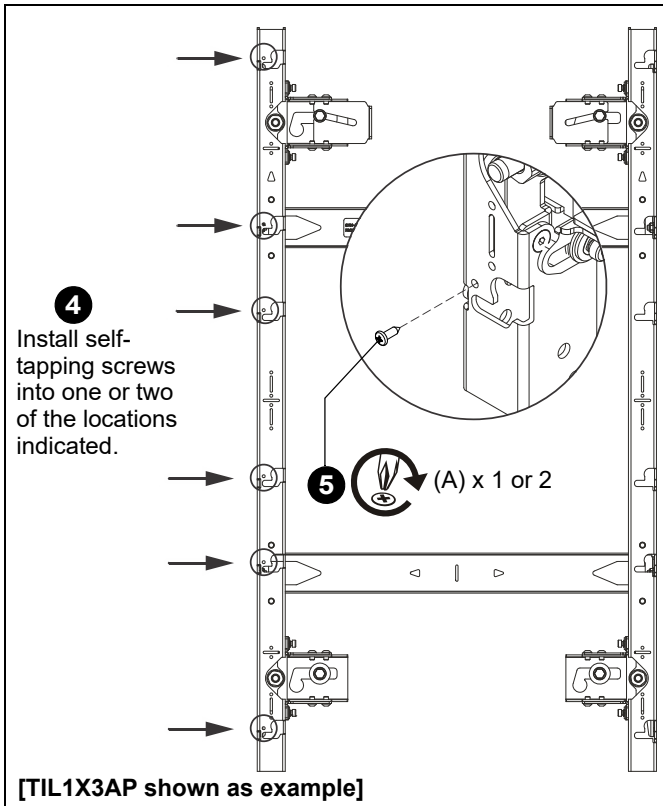

Figure 18
4. Install one or two #10 x 1/2" Phillips self-tapping screws (A) into the edge of the mounting button slots on the far left mount. **One or two is typically all that is needed per mount.** (See Figure 18)